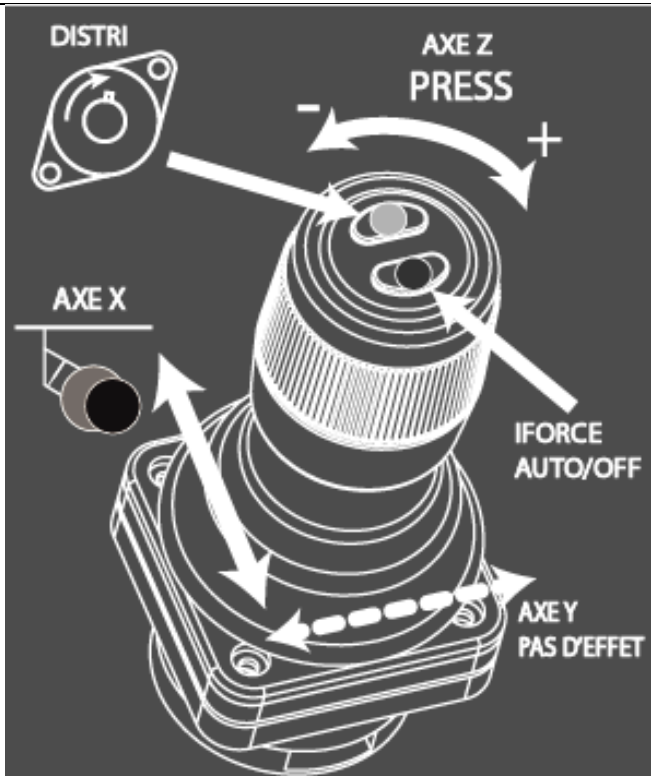

Fig. 49 : Joystick
- Use the Horizontal axis of the joystick see Fig. 49.